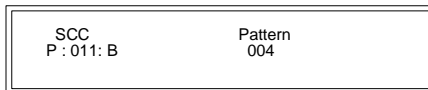

Figure 50: Notification Appliance Circuit Controller Address
- When RS-485 bus modules are used, their zonal programming selection is shown by using the same configure “Sounder” option as the on-board and loop-driven outputs. For example, an addressable notification appliance circuit controller module wired onto the RS-485 bus with an address of 11 is shown in Figure 50.